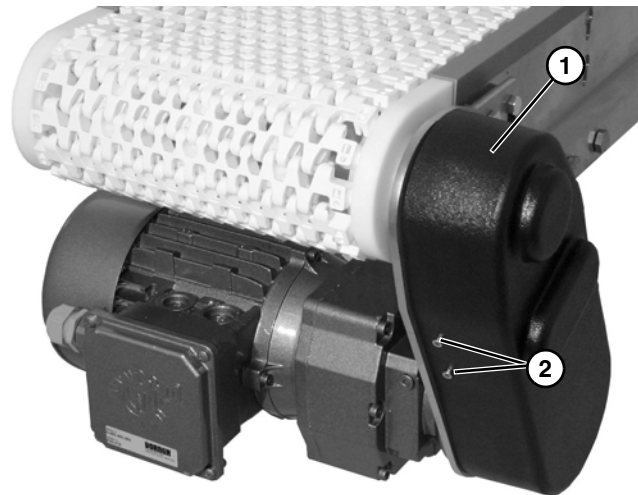

Figure 16
6. Install cover (**Figure 16, item 1**) with four screws (**Figure 16, item 2**). Tighten screws to 35 in-lb (4 Nm).